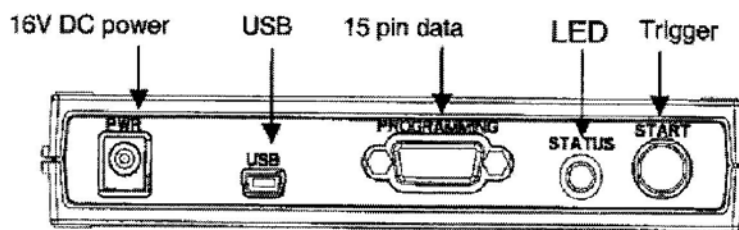

Figure 1. iFP Connections
1. Connect the DC Power Supply to the iFP per Figure 1 and 2.